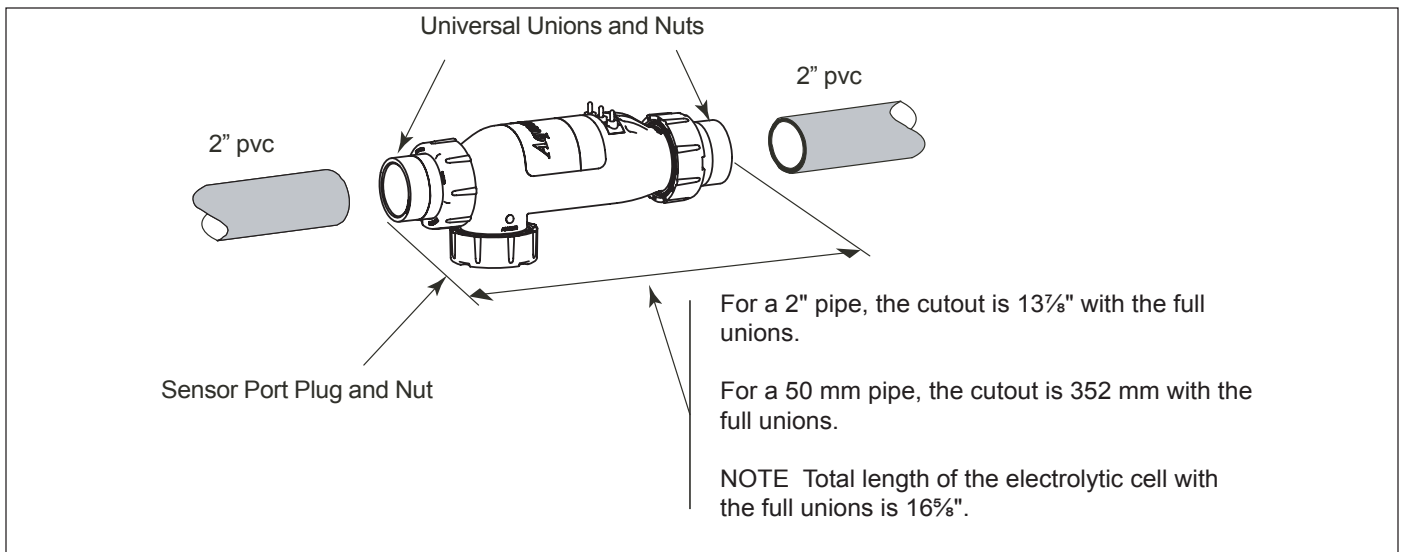

Figure 10. Pipe Cutout
5. Cut out a 13 $\frac{7}{8}$ " (352 mm) section of the 2" (50 mm) pipe to insert the Cell. See Figure 10.